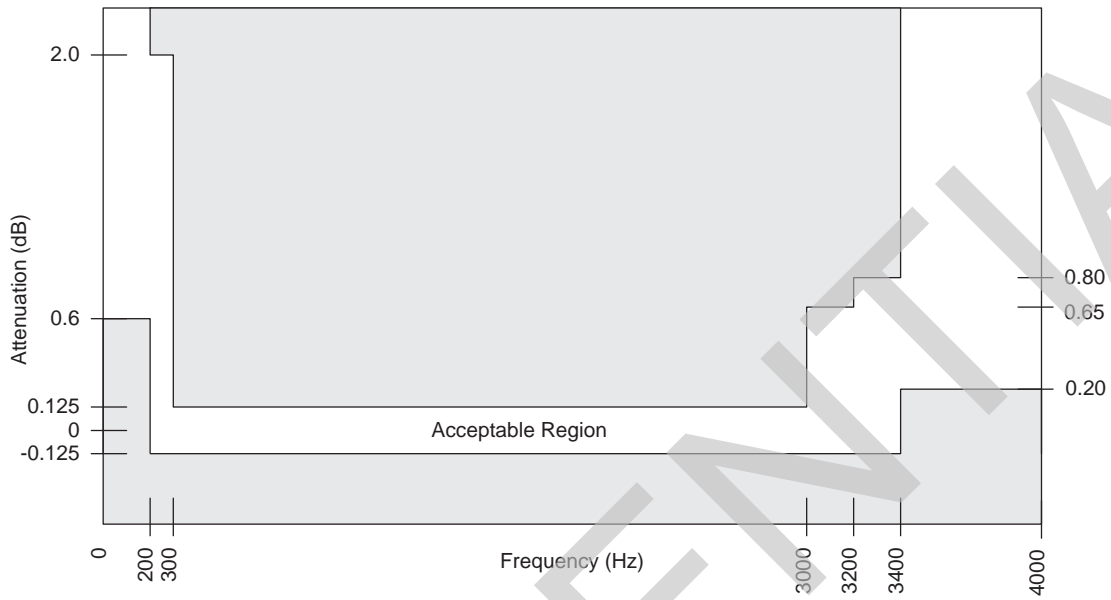
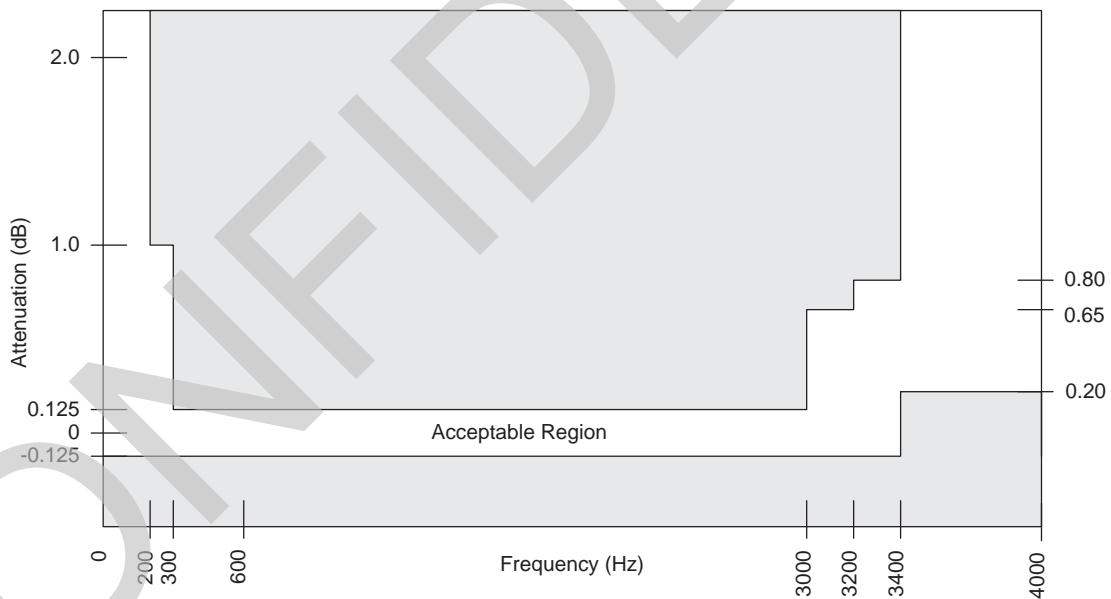

Figure 19 - Transmit (A to D) Path Attenuation vs. Frequency
Figure 20 - Receive (D to A) Path Attenuation vs. Frequency
3. See Figure 19 and Figure 20 on page 37.
The signal attenuation in either path is nominally independent of the frequency. The deviations from nominal attenuation will stay within the limits shown in Figure 19 and Figure 20. The reference frequency is 1014 Hz and the signal level is -10 dBm0.